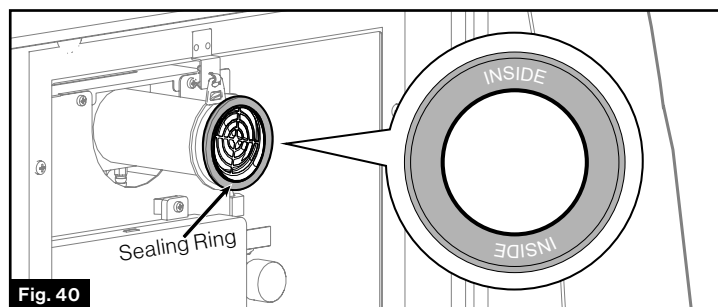

Fig. 40
12. A sealing ring is assembled on the chimney. (Fig. 40) Inspect to make sure the seal does not have any cracks or breaks, and that it is in good condition. Contact Furion for replacement.